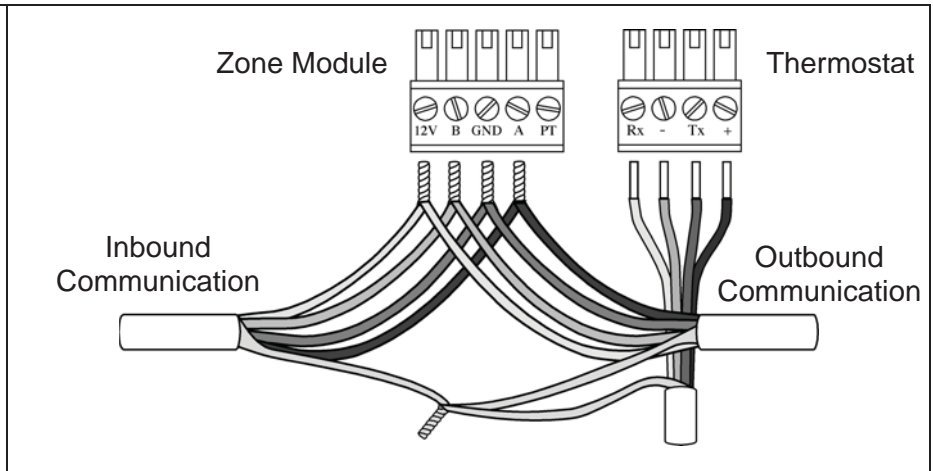

Fig. 3
- 2) **Intermediate Module's Connection** - At the Zone Modules, the shields of inbound and outbound communication cables, and the thermostat cable will be connected together, and isolated. Do not connect the shield to the Zone Module Connector (Fig. 3).